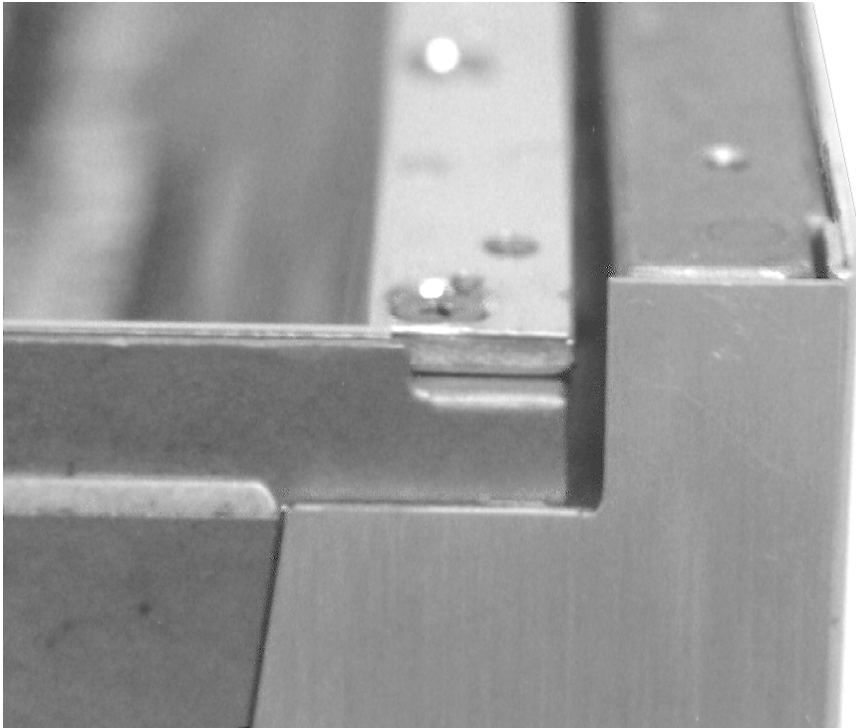

Figure 35. Correct Reflector Alignment (I310M/I311M)
8. When the reflector is properly installed, the face should be flush and even with the outer face of the two end reflectors as shown in Figure 35.